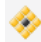

**Figure 5.14. Constraint File in Source Project**
- d. For board level SoC project, copy the Diamond constraint .lpf file from the source project (Figure 5.14). The path is <workspace>/<project\_dir>/<project\_name>.lpf.